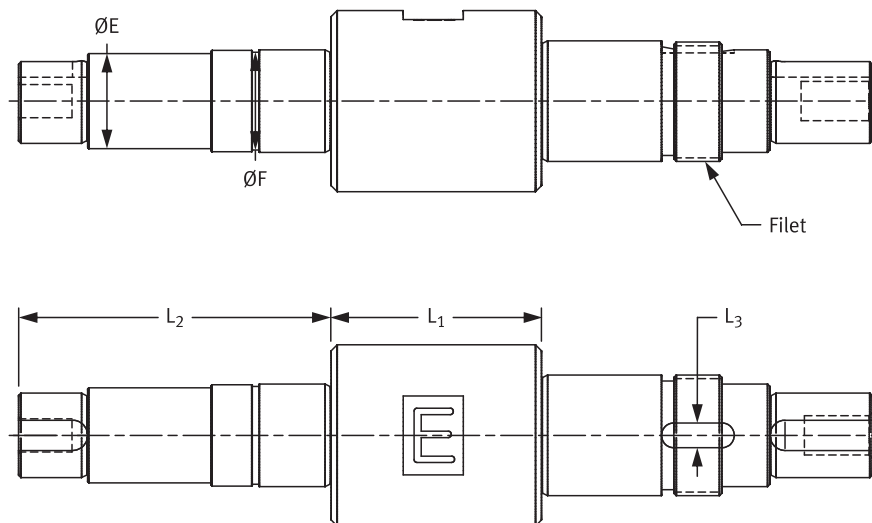

Figure 24: Features to be measured on the pump shaft using a vernier caliper.
18. Identify in the pump shaft the features shown in Figure 24. Familiarize yourself with the identification letters and numbers, as you will use them as reference to perform your measurements on the pump shaft.
36. Identify in the shaft pump the keyway for which the width is identified as L_3 in Figure 24. Hold the shaft on a work surface or use your hand to hold it.